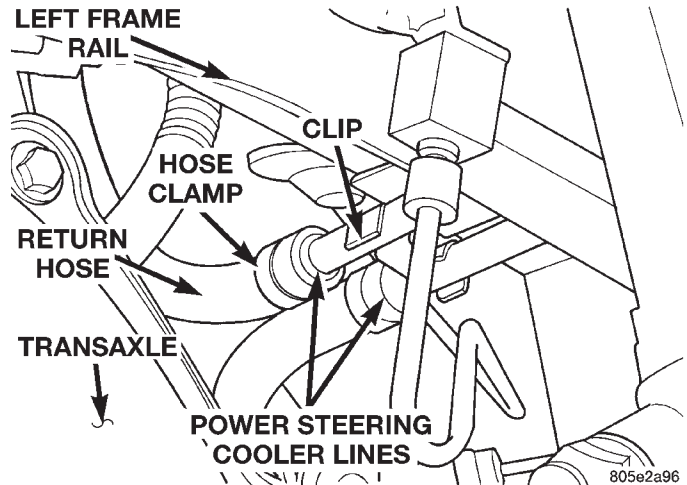

Fig. 19 Power Steering Hose Connections At Cooler Lines
(4) Lower the front suspension crossmember far enough to gain access to the high and low pressure ports on the steering gear.
(5) Disconnect power steering fluid return hose at power steering cooler line (Fig. 19). Drain power steering fluid from hose.
(2) Using a lint free towel, wipe clean all open power steering hose ends, and the power steering gear port.
(3) Install a new O-ring on the power steering return hose to steering gear fitting.
(4) Lubricate O-ring using fresh clean power steering fluid.
(5) Install the power steering return hose, on the cooler lines (Fig. 19).